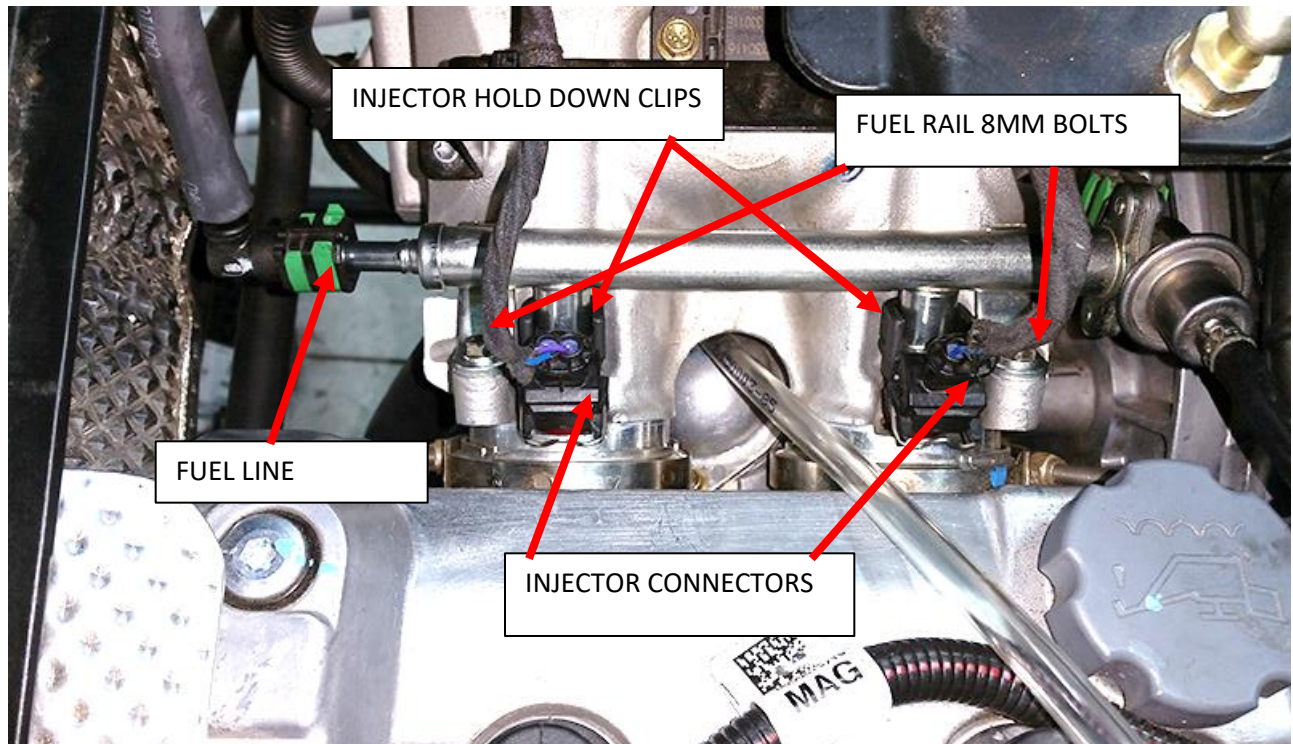

Figure 1.
Step 2: Remove the electric connectors from the injectors – this is done by squeezing the wire clips towards the back of the vehicle and pulling the connectors off the injectors. See figure 1.
Step 3: MAKE SURE TO WEAR SAFETY GLASSES IN THIS STEP. Disconnect the fuel line from the fuel rail by removing the GREEN clip– **NOTE** fuel may spray when this is released. See figure 1.
1, push the plastic injector clip down (see figure 1.) This will release the injector from the fuel rail. Remove both the clip and injector. Repeat step 5 for injector 2.